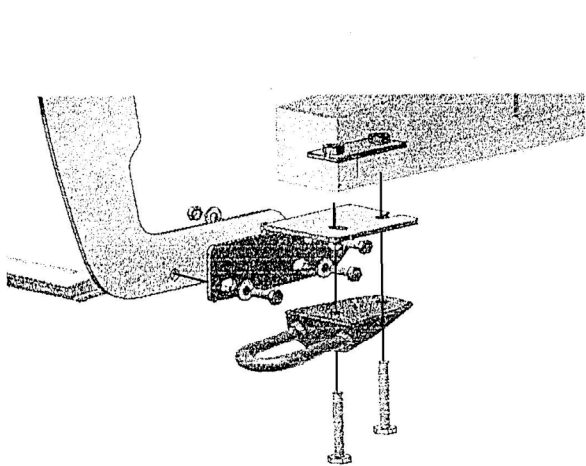

Figure 1.2 – Driver-Side Mount Bracket
1. Remove tow hooks from the front of the vehicles frame by removing the front bolt and loosening the rear bolt. Place the frame mount brackets on the underside of the frame , as shown in Figure 1.2, followed by the tow hooks. Replace the factory bolts and hand tighten.
2. Line up the 3 holes on the lower portion of the Front Bar with the 3 holes on the inside of each of the frame mount brackets (see Figure 1.2) and attach using (3) 7/16 x 1 ¼ hex bolts, 6-7/16 USS flat washers, and (3) 7/16 hex lock nuts for each side. Hand Tighten.
3. To attach the brace brackets, open the hood and remove (2) factory bolts located just behind the bumper, and in line with the front bar uprights. Please see\ third page for detailed instructions.
5. Align the left and right side of the Front Bar to the vehicle bumper, and when satisfied that the Bar is centered, tighten the (4) factory frame bolts. The (6) bolts supporting the Front Bar and the (4) Brace Bracket bolts may now be tightened to complete installation.